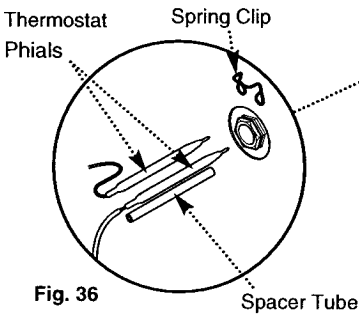

Fig. 36
4. Pull the spring clip off the thermostat pocket. Withdraw both the boiler and overheat thermostat phials and the spacer tube from the pocket (Fig. 36).